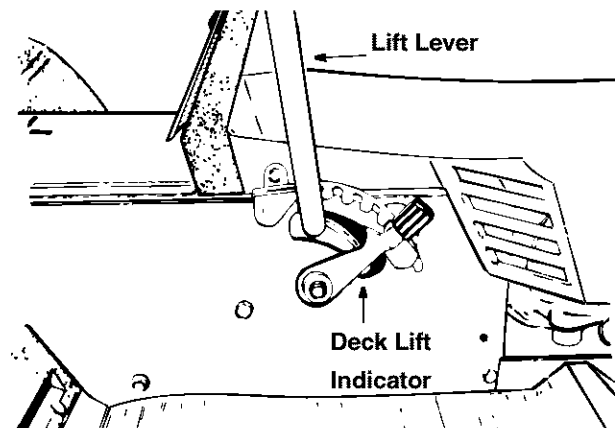

Figure 12
**NOTE:** The lift lever **must** be in the BLADES STOP position when starting the engine, when shifting into reverse and if the operator leaves the seat. See Figure 12.
If so equipped, the deck lift indicator marks the position being used for the lift lever. Select the lift lever position desired, press the indicator lever outward, move it to the position immediately below the lift lever and release the indicator lever. See Figure 12.